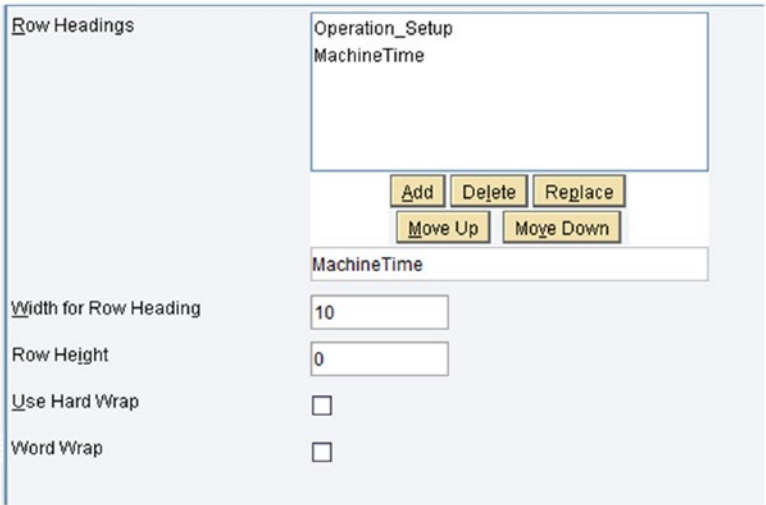

Figure 7-32. i5Grid row heading configuration
- *i5Grid Row Heading*: Row headings of SAP MII grids can be set. See Figure 7-32.